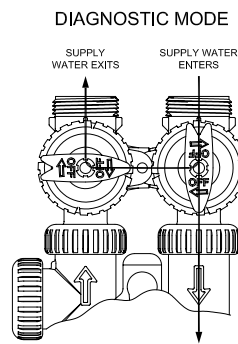

figure 3
3. Diagnostic Position: The inlet handle points in the direction of flow and the outlet handle points to the center of bypass valve, system water pressure is allowed to the control valve and the plumbing system while not allowing water to exit from the control valve to the plumbing. (see figure 3)
If using optional bypass **SLOWLY** turn bypass valve to **DIAGNOSTIC** position (See figure 3 on page 5) or slowly open inlet valve to allow water to slowly enter Softener.